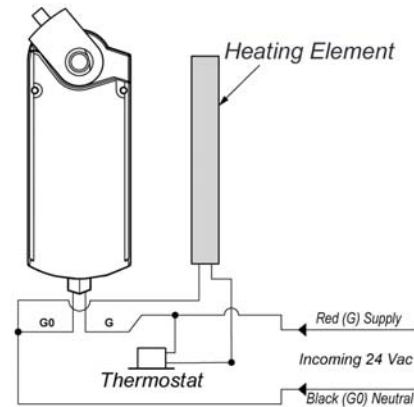

Figure 1. Wiring Diagram
5. Wire heater and thermostat. See Figure 1.